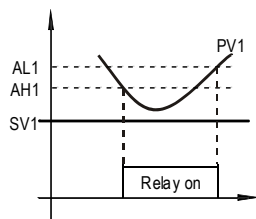
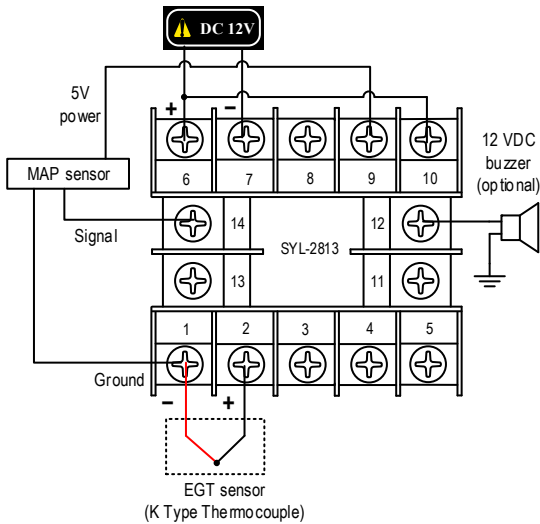

Figure 7. Absolute low alarm on J1.
Figure 8. SYL-2813 wiring example of EGT sensor in Channel 1 and MAP sensor in Channel 2.
Relay J1 and J2 are normally open (NO) relays associated with alarm settings of Channel 1 and Channel 2 respectively. Each relay has two alarm parameters AH and AL. The parameter AH (AH1 for Channel 1, or AH2 for Channel 2) is the relay pull-in temperature, and the parameter AL (AL1 for Channel 1, or AL2 for Channel 2) is the relay drop-off temperature. The range for each alarm parameter is shown in Table 5. If AH > AL, relay acts as a high temperature alarm relay; if AH < AL, relay acts as a low temperature alarm relay; if AH = AL, the relay/alarm is disabled. Please see Note 6, Figure 7, and Figure 8 for details.
- 3). When AH < AL, relay is set as low limit alarm (see Figure 7).
The SYL-2813 gauge has two input channels and it can read two different types of signal simultaneously. The wiring diagram of connecting an EGT sensor and a MAP sensor to SYL-2813 is shown in Figure 8. The steps for setting up the gauge for this application is also given in this section.
E.1.a) Wire the EGT sensor (K type thermocouple in this example) and the MAP sensor (AUBER-303) as shown the Figure 7, where the EGT sensor is connected to channel 1 and MAP sensor is connected to channel 2.